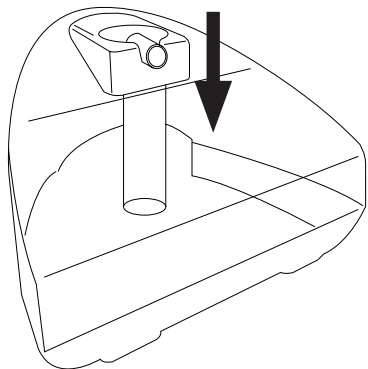

Fig.2
- ♦ Respect the MAX level (Fig. 2)
- ♦ Remove the tank from the appliance by pressing the tank release button (D) located at the base of the tank or fill the tank through the filling hole (A).
- ♦ Fill the tank taking care to observe the MAX level (Fig.2).
- ♦ Fill the deposit taking care to observe the MAX level (Fig. 2)